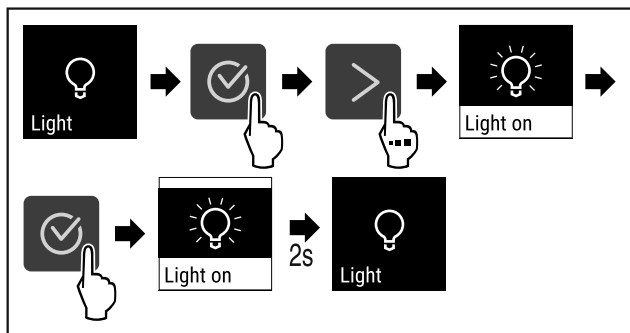

Fig. 69
- Complete steps (see Fig. 69) .